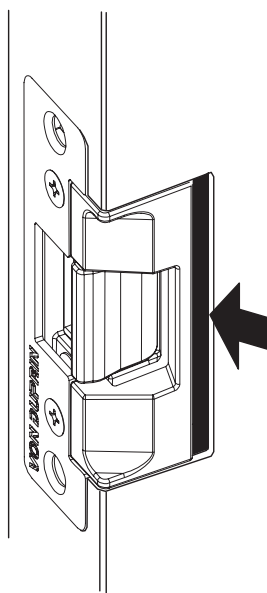

Figure 6
8. Test strike: Apply solenoid power. Fail secure (FSE) lip unlocks. Fail safe (FS) lip locks.
9. If cut-out for strike is too large along edge (Figure 6), cut neoprene filler and stick onto strike as shown (Figure 7).